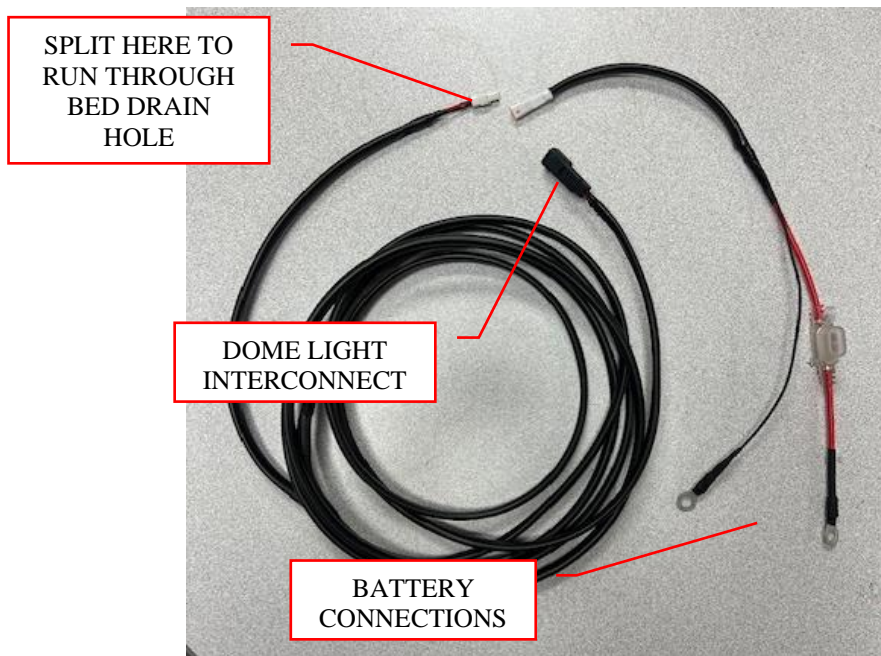

**Figure 7: Attach the gas spring to the ball studs.**
5. Snap the gas spring onto the ball studs. Be sure to install with the cylinder end attached to the door and the rod end attached to the wall. The rod end should always be pointed down to ensure the seal remains lubricated. See Figure 7.